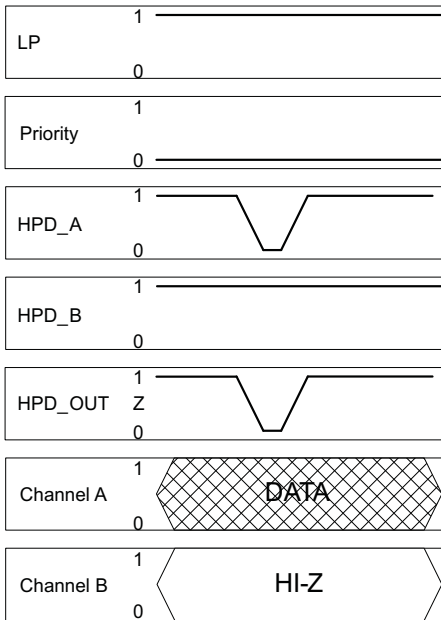
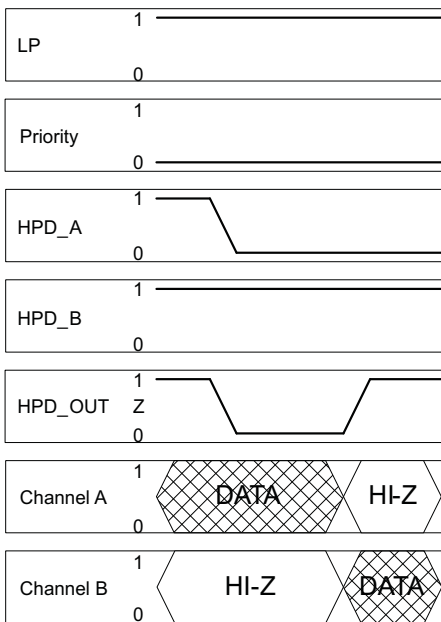

Figure 41.
Figure 42.
- Case two: In this case both HPD inputs are initially HIGH and the selected port has been determined by the state of the priority pin. The HPD output logic state follows the state of the selected HPD input. If the HPD input pulses LOW, the HPD output to the source also pulses LOW for the same duration of time, again with a slight delay (see Figure 41). If the duration of the LOW pulse exceeds $t_{T2(HPD)}$, the device assumes that an unplug event has occurred and the other port is selected (see Figure 42). The case in